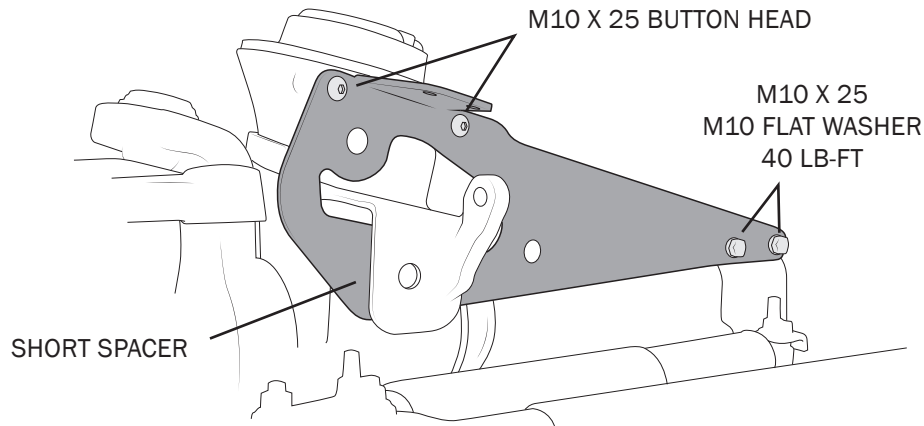

Figure 16
- b. Install the rearward track bar bracket to the new coil spring mount and axle using the supplied hardware. Leave loose at this time (fig. 16). NOTE: snug the M10 x 25 button head bolts as far as possible while still allowing for movement.